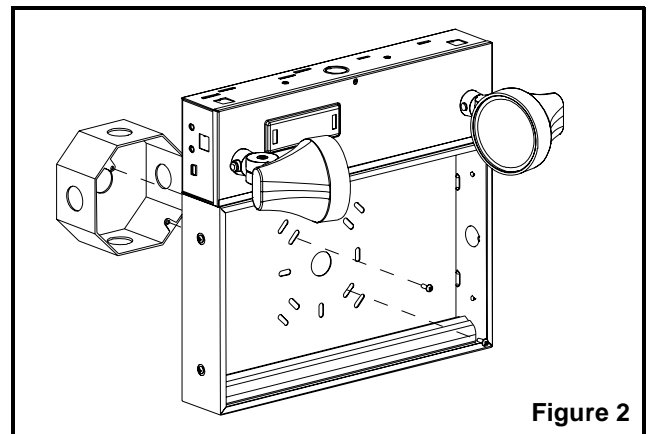

Figure 2
### Wall Mount (Figure 2)
- c. Mount the exit sign securely to the junction box using the junction box screws (see figure 2).